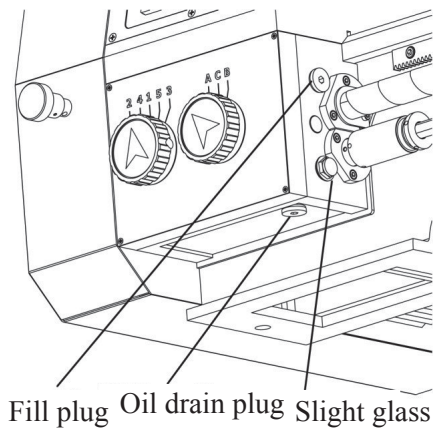

Figure 30
1. Check the oil reservoir sight glass shown in Figure 30. If the oil level is below the halfway mark, continue with the following steps to add oil.
2. Remove the reservoir fill plug (see Figure 30.)
3. Hold the drain pan under the reservoir drain plug, then remove the drain plug shown in Figure 30, and allow the oil to completely drain into the pan.